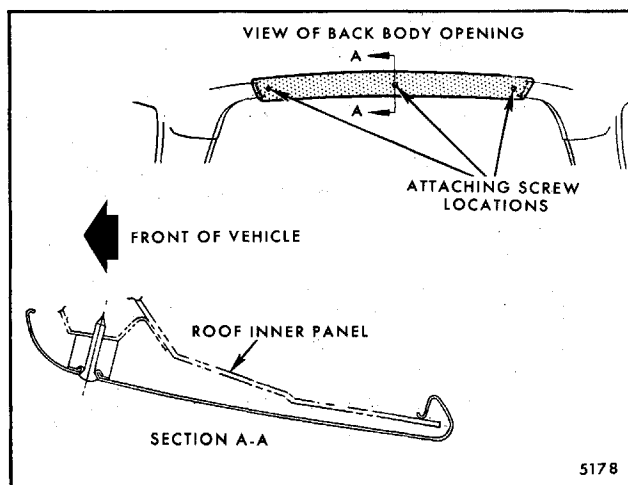

Fig. 7-110-Back Body Opening Upper Finishing Molding
1. Remove screw retained back body opening upper finishing molding (Fig. 7-110).